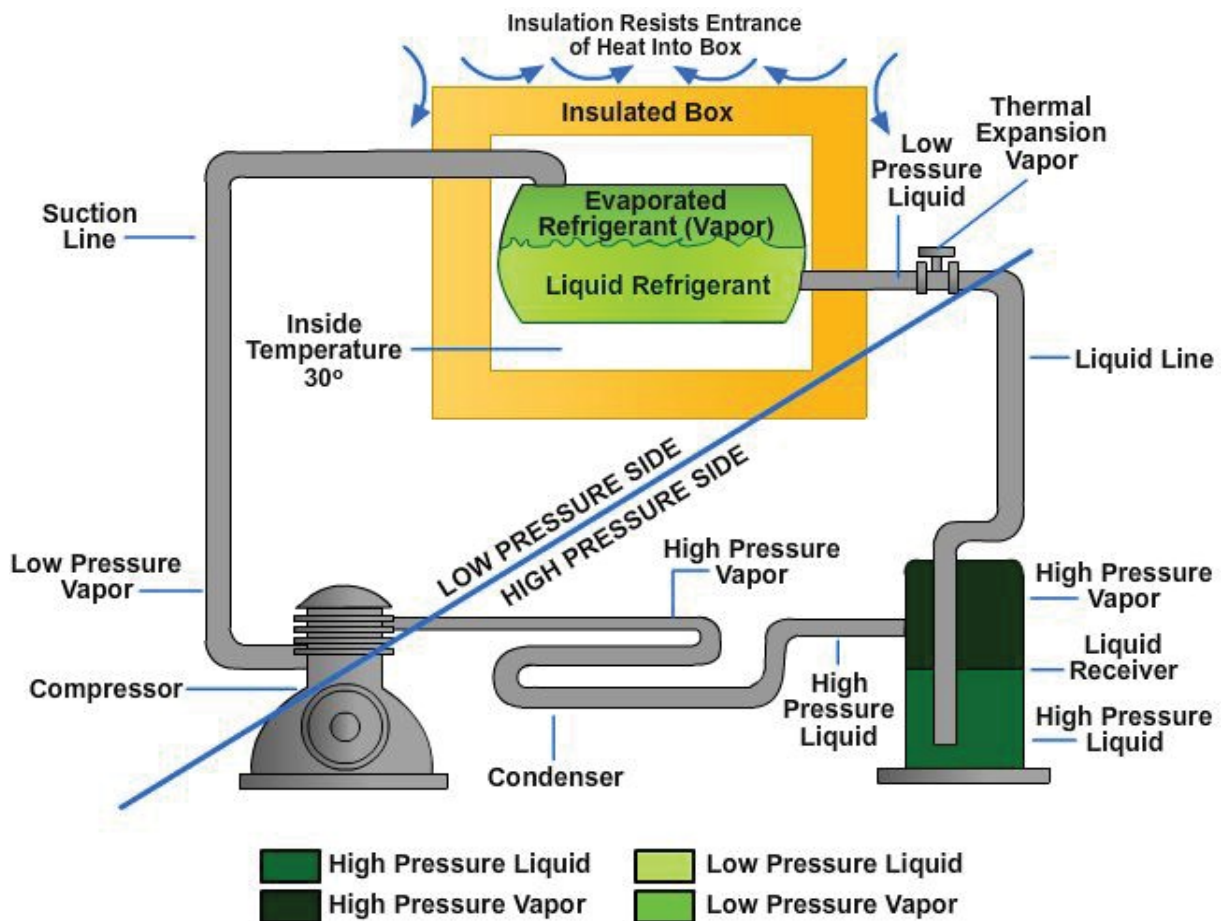

Figure 12-12 – Refrigeration cycle.
Every mechanical refrigeration system operates at two different pressure levels. The dividing line is shown in *Figure 12-12*. The line passes through the discharge valves of the compressor on one end and through the orifice of the metering device or expansion valve on the other.
The refrigeration cycle of a mechanical refrigeration system may be explained by using *Figure 12-12*. The pumping action of the compressor (1) draws vapor from the evaporator (2). This action reduces the pressure in the evaporator, causing the liquid particles to evaporate. As the liquid particles evaporate, the evaporator is cooled. Both the liquid and vapor refrigerant tend to extract heat from the warmer objects in the insulated refrigerator cabinet. The ability of the liquid to absorb heat as it vaporizes is very high in comparison to that of the vapor. As the liquid refrigerant is vaporized, the low-pressure vapor is drawn into the suction line by the suction action of the compressor (1). The evaporation of the liquid refrigerant would soon remove the entire refrigerant from the evaporator if it were not replaced. The replacement of the liquid refrigerant is usually controlled by a metering device or expansion valve (3). This device acts as a restrictor to the flow of the liquid refrigerant in the liquid line. Its function is to change the high-pressure, subcooled liquid refrigerant to low-pressure, low-temperature liquid particles, which will continue the cycle by absorbing heat.
Although the receiver is indicated as part of the refrigeration system in *Figure 12-12*, it is not a vital component. However, the omission of the receiver requires exactly the proper amount of refrigerant in the system. The refrigerant charge in systems without receivers is to be considered critical, as any variations in quantity affect the operating efficiency of the unit.
A liquid receiver, as shown in *Figure 12-12*, serves to accumulate the reserve liquid refrigerant, to provide storage for off-peak operation, and to permit pumping down of the system. The receiver also serves as a seal against the entrance of gaseous refrigerant into the liquid line.